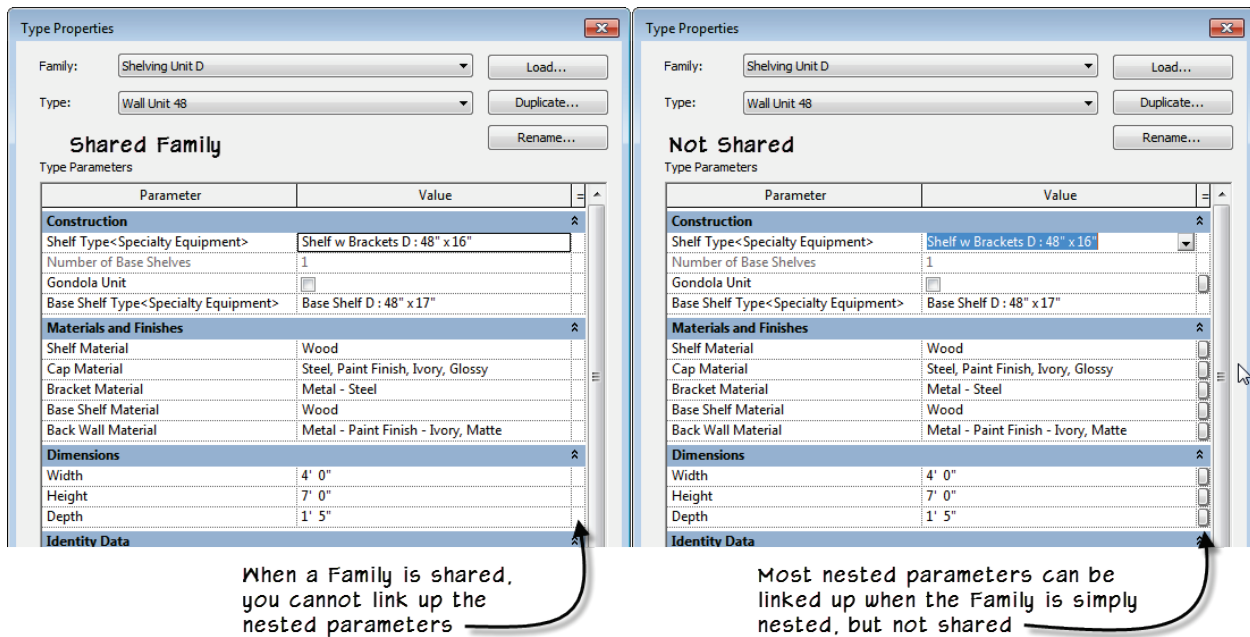

Figure 19—Nested Shared Families cannot have their type parameter values driven by the host Family
- Linking up nested parameters**—If you have a nested Family, **you can drive the parameter values in that family from the host family.** To do this, look for the small button in the far right column of the Properties palette or “Type Properties” dialog (see the right side of Figure 19 below). You will need to create a parameter in the host family that will drive the value of the nested family parameter. This parameter can have the same name or can be different.
There is a very important consideration when using shared families. If you have nested families that rely on linked type parameters (see the “Linking up nested parameters” bullet point above), you cannot make the family shared. **Shared families cannot have their type parameters driven by a host family.** So you either have to avoid nesting, use instance parameters or not use shared families (see Figure 19).